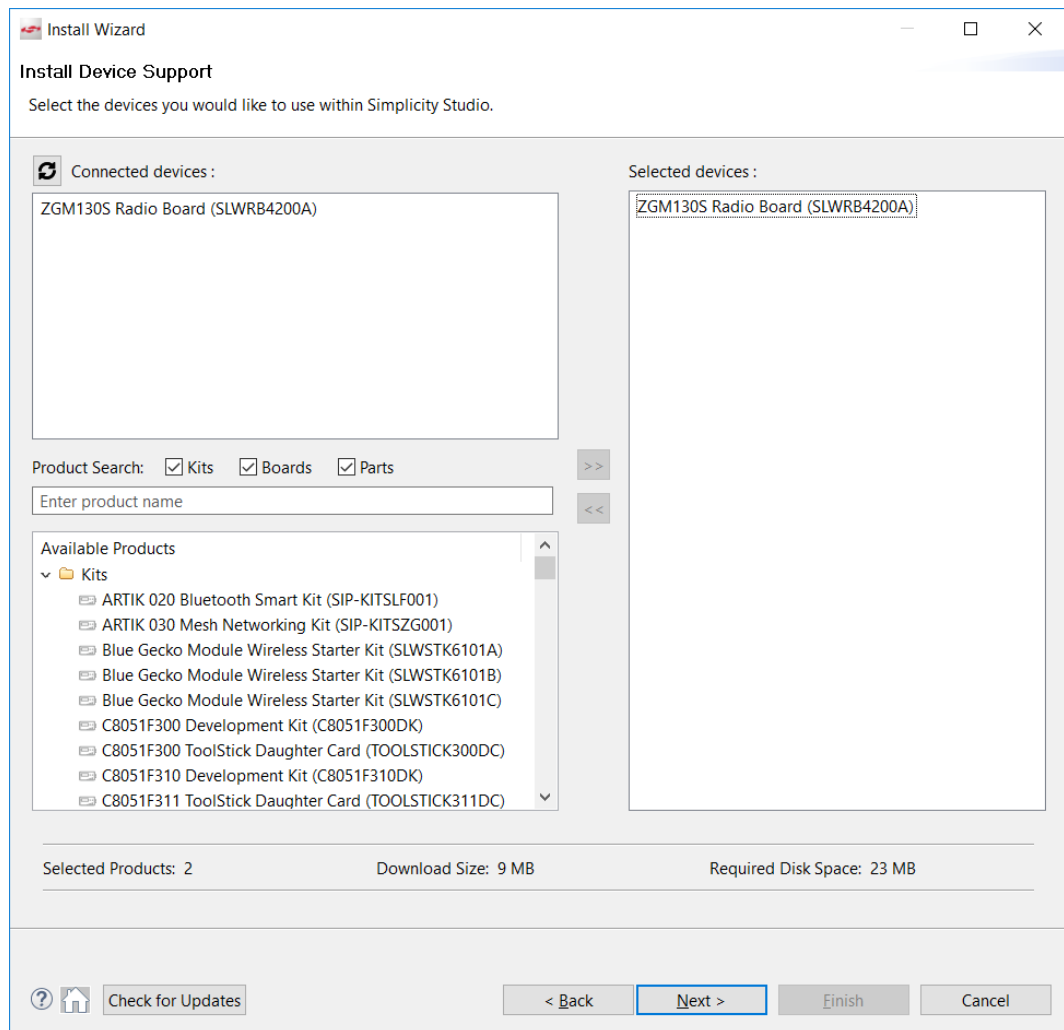

Figure 3: Select a Device to Install the Needed Software Packages
- 6) After some additional items are installed, you are offered the option of installing by device or installing by product group. In this guide we will be using the *'Install by Device'* option, which will install the relevant software based on the connected hardware (if you do not have any hardware connected, you can browse for possible hardware kits, and still get the same easy install experience). See Figure 3.